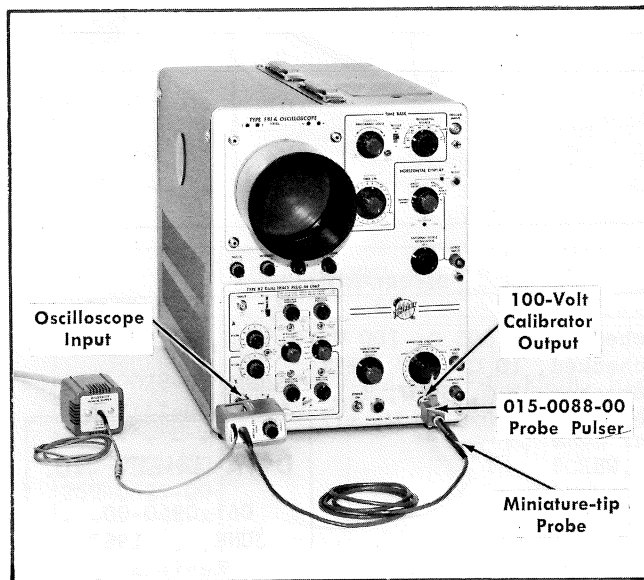

Fig. 1. Correct connection of Probe Pulser and probe to oscilloscope calibrator output and vertical channel input. (Shown with a P6045 FET Probe.)
1. Connect the Probe Pulser to the oscilloscope Calibrator Output and insert the probe tip into the Probe Pulser as shown in Fig. 1.